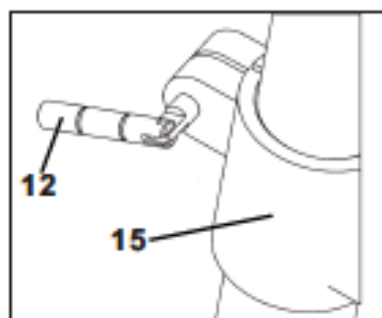

Fig 5a
- Slide the Height Crank(12) over the shaft on the side of the Table Support(15). **(Fig 5a)**